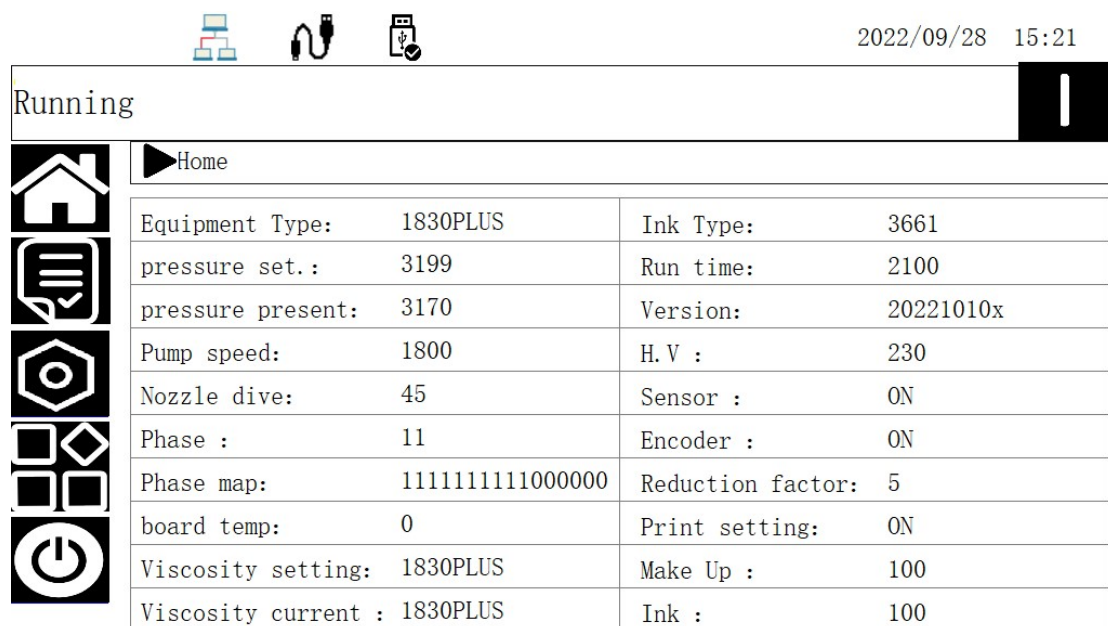

Figure3-7
8、Touch  **Status (1)** and observe the parameters of the in-jet printer, as shown in Figure 3-7. The change in viscosity was observed continuously for 3 cycles, and then the make up box was inserted until the current value of viscosity and the set value were approximately the same. Adjust the “Nozzle Drive” value, refer to the ink circuit system for details.